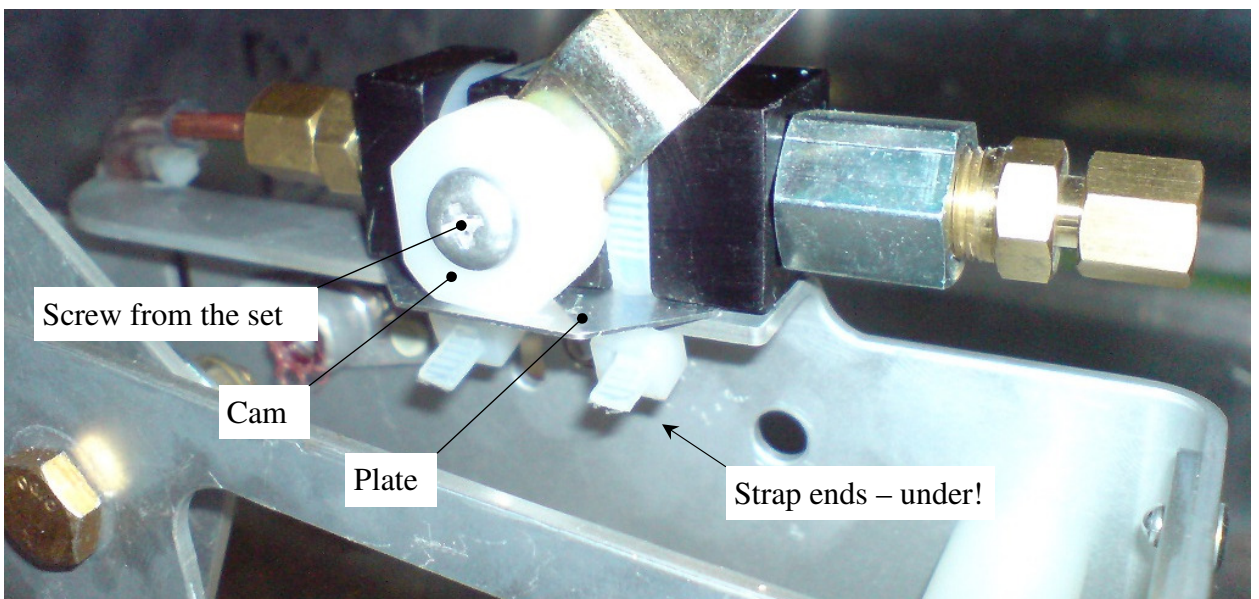

Fig. 3
8. Install the cam on the parking brake shutter lever (see fig. 3) and fix the lever with a longer screw from the mod kit. Place the washers removed from the old screw under the new screw head.
9. Install back the parking brake valve with the plate from mod kit as shown in fig. 3. Secure the valve and braking system tube with straps. The strap ends must be on the bottom side!